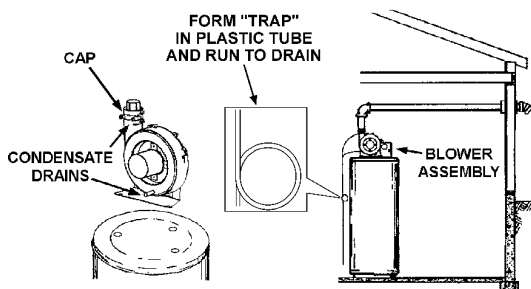

FIGURE 17.
3. The blower discharge adapter is made to accept only straight sections of 2" pipe. To start, a minimum of 2 inches (5.1 cm) of 2" pipe must be attached to the blower discharge, see Figure 17.
4. There will be some installations where condensate will be formed in the horizontal runs of the vent system. This condensate will run into the condensate boot attached to the blower and out the fitting. The water heater is shipped with condensate hose that attaches to the fitting on the condensate boot. No other Tee or fitting is required. See Figures 17, 20 and 21.
This water heater is a condensing unit and requires a drain to be located in close proximity to allow the condensate to drain safely. The condensate drains from the unit at the exhaust tee located at the bottom of the unit (see figure 16) and from two places on the blower assembly (see figure 17). Condensate from this water heater is mildly acidic. Please note that some local codes require that condensate is treated by using a pH neutralizing filter prior to disposal.
Condensate is likely to form in the venting system attached to this water heater. The vent pipe should be sloped downward away from the blower assembly (not less than 1/8" (3.2 mm) nor greater than 1/2" (12.7 mm) per foot (30 cm) maximum). If the vent piping is vented level or sloped upwards away from the blower assembly, then adequate means for draining and disposing of the condensate needs to be made by the installer. In either case, a 3/8" drain hose should be connected to the built-in drain port. Prior to operating the water heater, make sure the removable cap is installed on the second drain port, see Figure 17.
3. Condensate drains from two locations on the blower assembly as shown in figure 17. A condensate hose must be secured to form a "trap" as shown in figure 17 for these condensate drain connections. These two hoses may be connected together. The hose(s) should be routed to a suitable drain. A fitting that may be used to join the two hoses from the blower assembly is included in a supplied kit.